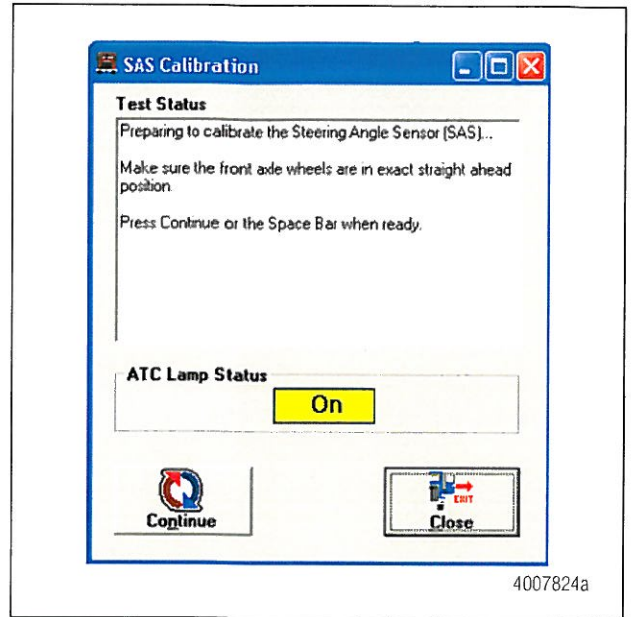

Figure 14
7. Follow the instruction in the message box. Figure 14.